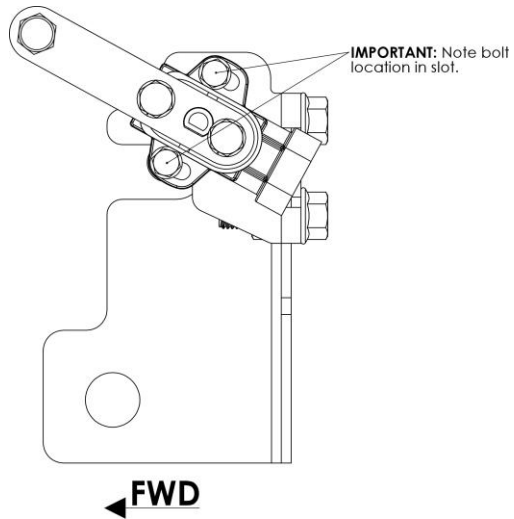

Figure 21: Sensor Installed on Mount Plate
4. Attach the Steering Sensor Assembly to the Steering Sensor Mount Plate as shown below in Figure 21.